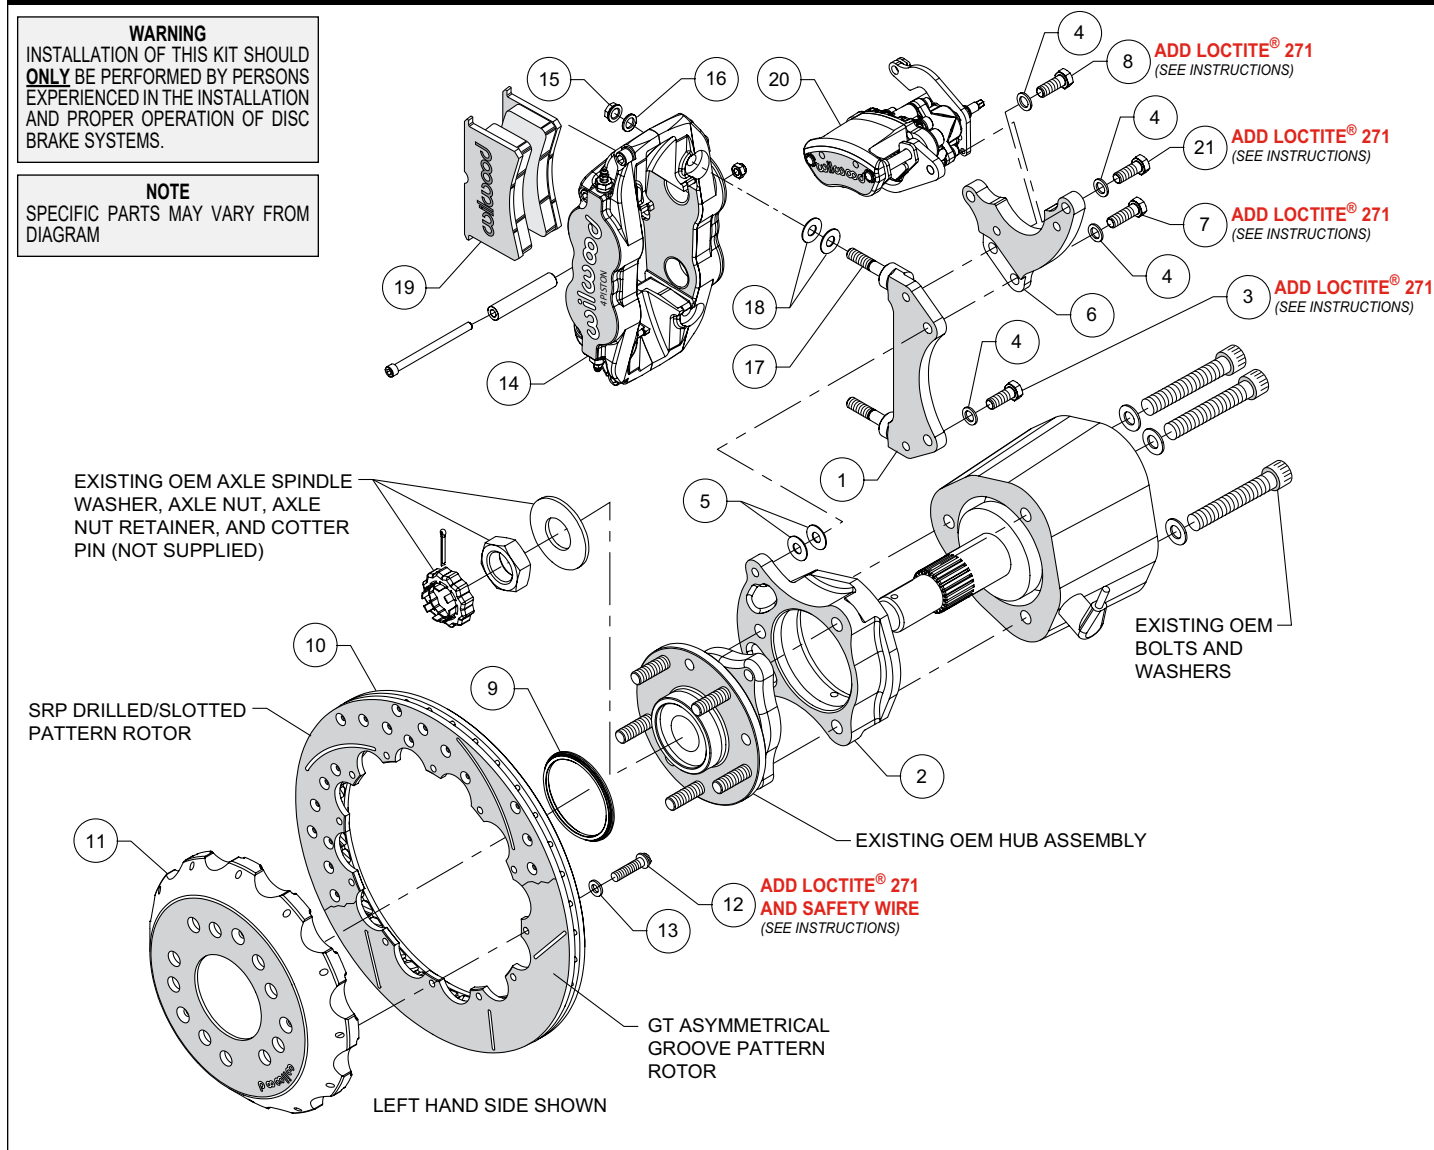
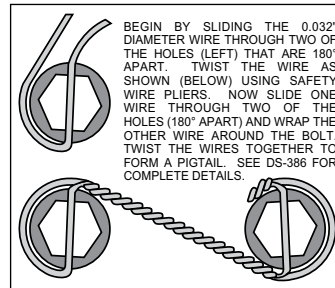

Figure 1. Typical Installation Configuration
Figure 3. Safety Wire Diagram
Assembly Instructions (numbers in parenthesis refer to the parts list and Figure 1 on the preceding pages):
- The caliper and parking brake mount brackets should initially be installed with clean, dry threads on the mounting bolts. Orient the parking brake bracket (6) and caliper bracket as shown in Figure 1 and Photo 1. Attach parking brake bracket using top bolt (8) and washer (4) (arrow). Do not tighten.
- Attach the radial mount caliper bracket (1) to the axle hub bracket (2) using bolts (3 and 7) and washers (4) as shown in Figure 1 and Photo 1. Initially place two .035" thick shims (5) on bolts (3 and 7) between the radial bracket and axle hub bracket, Figure 1. Temporarily tighten all three bolts. Later, after the caliper alignment has been checked, the mount bolts will be secured using red *Loctite*® 271.
- Orient the rotor (10) and the hat (11) as shown in Figure 1 and Photo 5. Attach rotor to hat using bolts (12) and washers (13). Apply red *Loctite*® 271 to the bolt threads and torque to 155 in-lb using a criss-cross pattern. For an added measure of security, the bolts may be safety wired using standard 0.032 inch diameter stainless steel safety wire as shown in Figure 3. Please refer to Wilwood's data sheet DS-386 (available at www.wilwood.com/Pdf/DataSheets/ds386.pdf) for complete safety wire installation instructions.
- Initially place two .035" thick shims (18) on each stud (17) as shown in Figure 1 and Photo 7. Mount the caliper (14) onto
the bracket (1) using lock nuts (15) and washers (16), Figure 1. Temporarily tighten the lock nuts and view the rotor through the top opening of the caliper. The rotor should be centered in the caliper, Photo 8. If not, adjust by adding or subtracting shims (5) between the radial bracket (1) and the axle hub bracket (2). Always use the same amount of shims on each of the two mounting bolts. Once the caliper alignment is correct, remove the radial/MC4 bracket mounting bolts (3, 7 and 8) one at a time, apply red *Loctite*® 271 to the threads, and torque bolts to 35 ft-lb.
- Mount the parking brake caliper (20) onto the top section of the caliper bracket assembly (1 and 6) using bolts (21) and washers (4), as shown in Figure 1 and Photo 12. Apply red *Loctite*® 271 to bolt threads, and torque to 30 ft-lb.